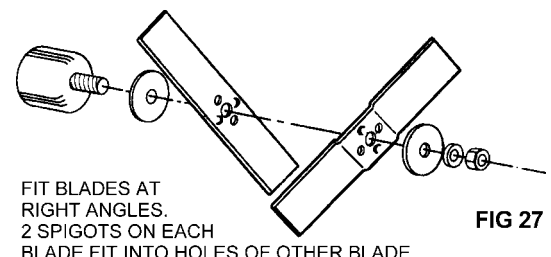

FIG 27
4. Remove one small washer, one large washer and two blades (Fig. 27). Before installing blade and washers, clean all grit and grease. Assemble these parts clean and dry. Fit large washer, new blades with spiggots of one blade interlocking with holes on opposite blade, large washer, one small washer, and nut. Tighten nut to 15-20 ft. lbs. (20-27Nm) or hand tight with 8" (200mm) or longer spanner.